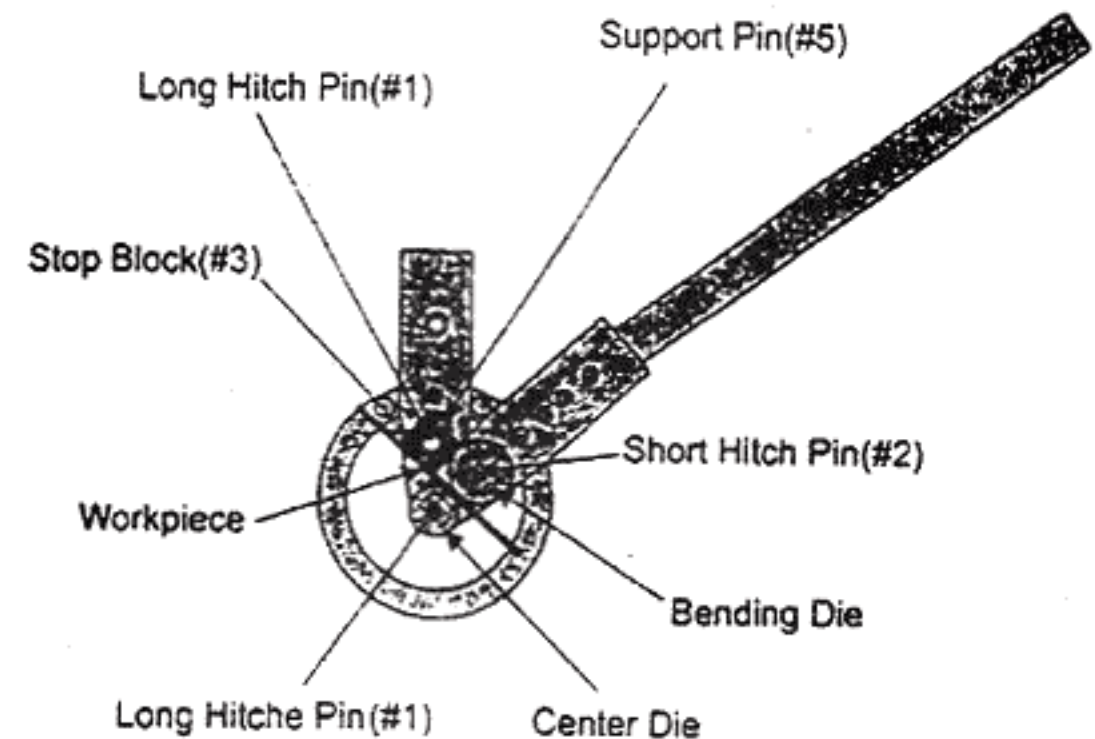

Figure 3 - Using Stop Block
- Step 1: The Stop Block (#3) holds the workpiece in place while the selected bending DIE(#17-#23) on the HANDLE(#9) bends it around the LONG HITCH PIN(#1) or selected center DIE as shown in Figure 3. The workpiece will bend in the shape of the bending DIE around the LONG HITCH PIN (or center DIE). See Figure 3.